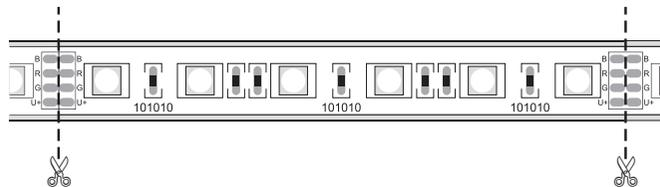

Figure 1
2. Shorten LED board if necessary (Fig. 1).
3. Only use item 86993 exclusively to seal the shortened part of the LED board.
LED boards can be disconnected in each case after **six** LEDs (Fig. 1).